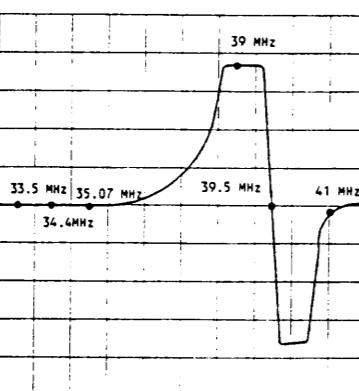

Fig 4.
- Adjust T101 to obtain the AFC waveform as same as Fig 4.